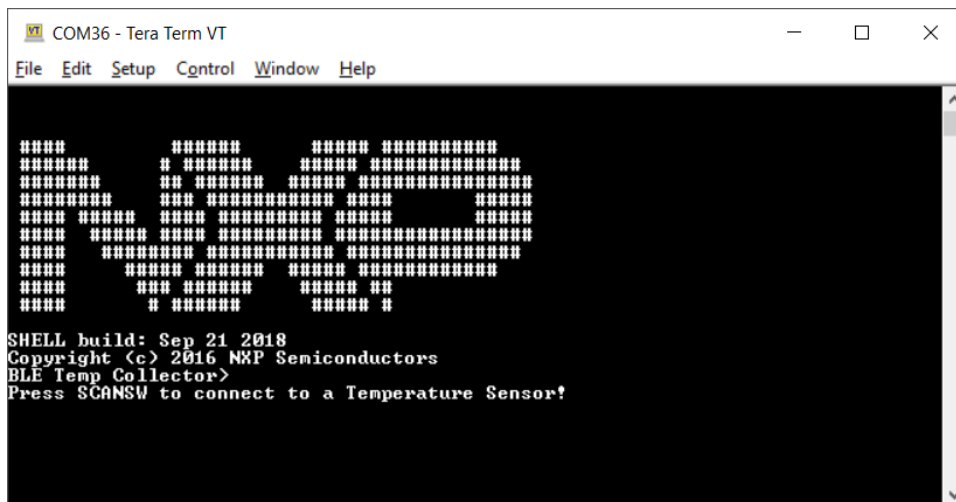

Figure 19. Temperature collector
4. Press the **Reset** (SW1) button on the FRDM-KW36 board. The Temperature Collector displays the screen shown in Figure 19.